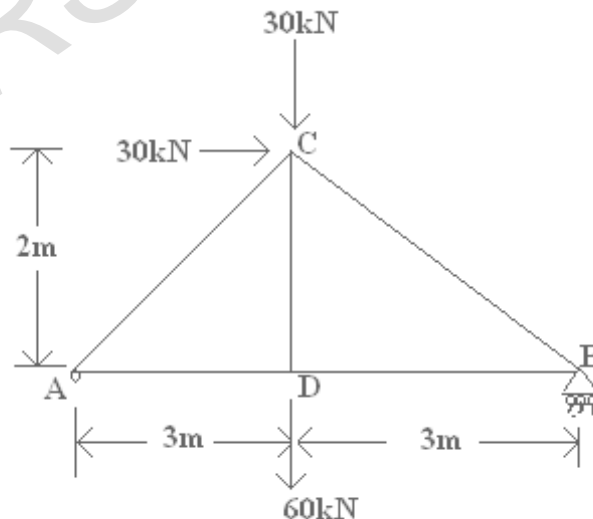

Figure 3
3. Using the method of sections, find the magnitude and nature of forces in all the members of the pin-jointed, simply-supported, plane frame shown in figure 3. Make the forces in the frame. [16]